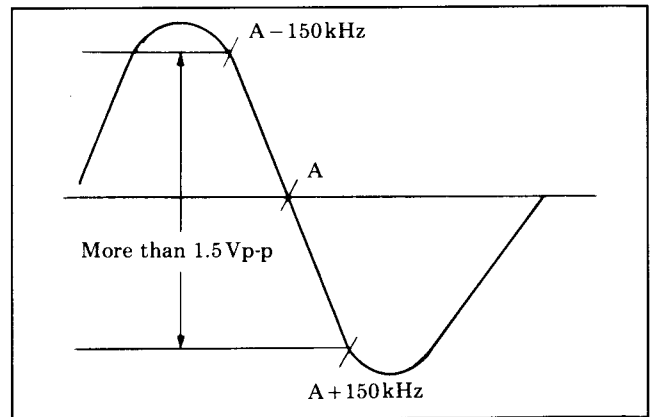

Fig. 36 SIF WAVEFORM
1. Connect a jumper wire between IC7651-⑨ and GND (NV-G10, G7EG/EO).
2. Set the BAND SW of the deck to the VHF high position (VH) (NV-G10, G7EG/EO). Turn the tuning volume so that the voltage at BT terminal of the tuner becomes $15V \pm 1V$.
5. Connect the JIG. both points TP709 and TV DEMODULATOR PACK-③. Adjust the VR1 of the JIG. so that the DC level becomes less than 5V.
8. Adjust T752 so that the attenuation of (A) trap becomes minimum.
9. Adjust T751 for maximum peak-to-peak amplitude of response "S" curve as shown in Fig. 36.